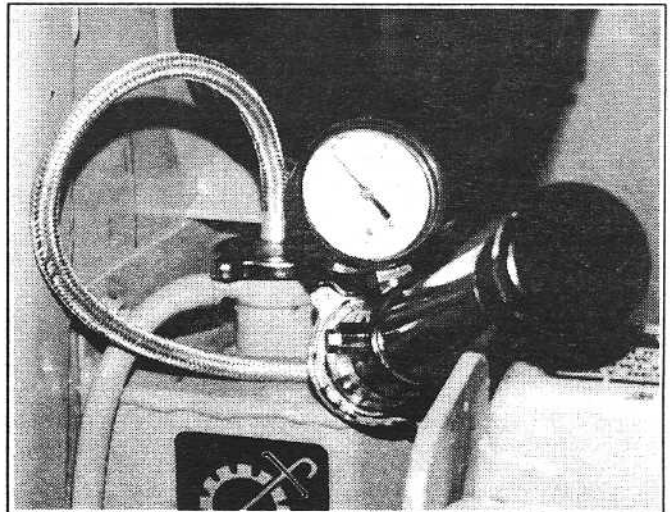

Figure 5-7
5. Apply regulated (10-20 PSI maximum) (.7 - 1.4 bar) air pressure to hydraulic reservoir expansion tank. (See figure 5-7)